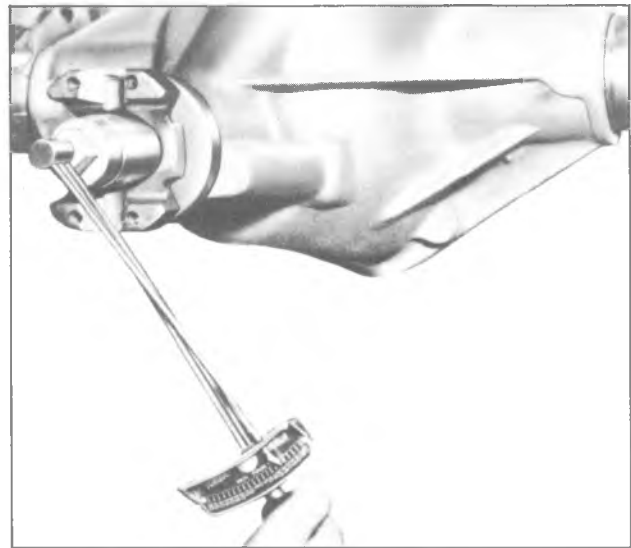

Fig. 4B-24—Measuring Pinion Rotating Torque
- Thread pilot end of Tool J-8614-3 into small O.D. end of J-8614-2. Then with J-8614-11 installed as in Step 6, insert J-8614-2 into J-8614-11 and turn it 45 degrees to locked position. Remove flange by turning J-8614-3 while holding J-8614-11 as shown in figure 4B-27.